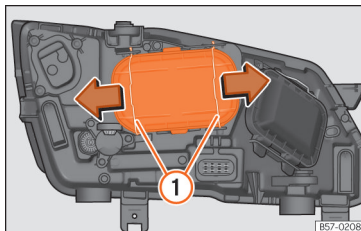

Fig. 53 In the engine compartment: remove the cover.
- Move the loops »» **Fig. 53 ①** in the direction of the arrow and remove the cover.